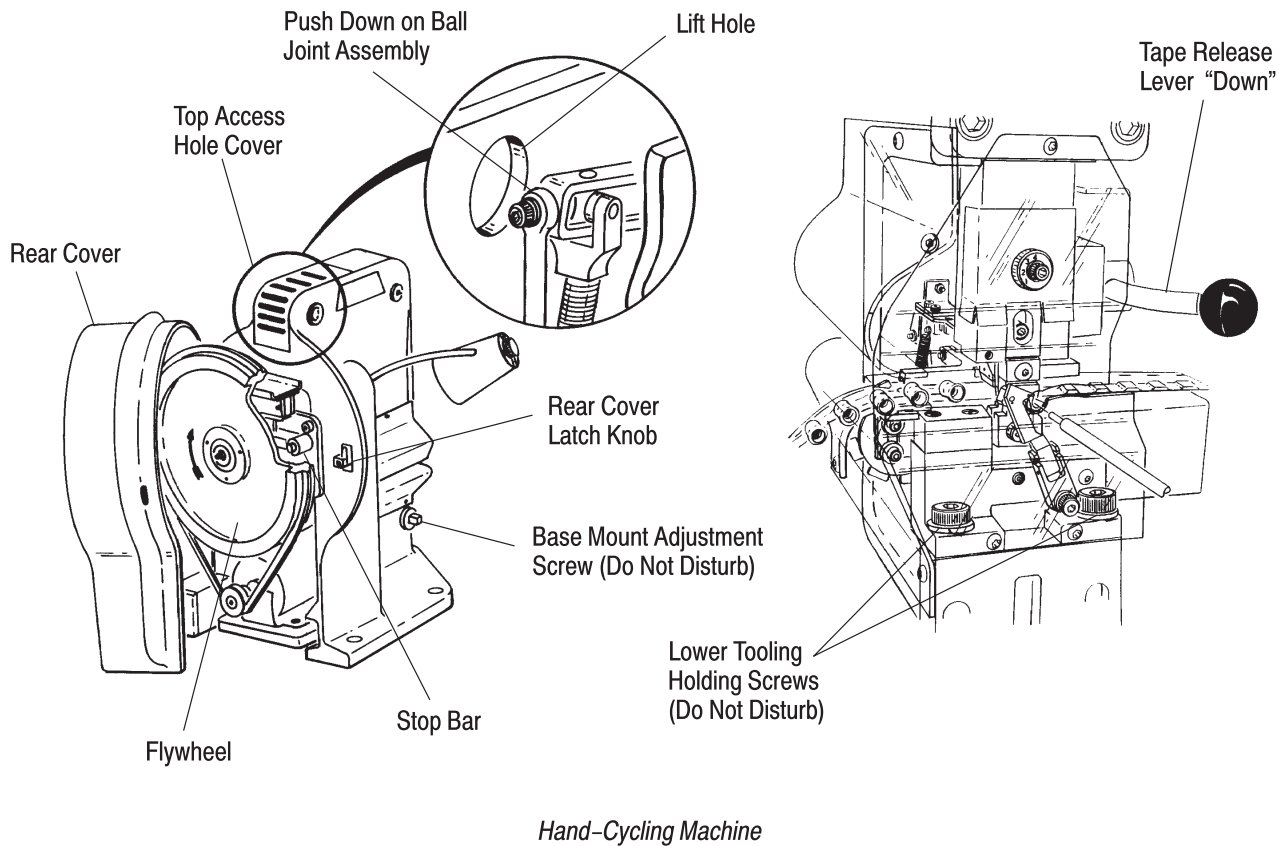

Figure 11
4. OPERATION**4.1. Hand-Cycling Machine** (Figure 11)
2. Make sure the tape release lever is in the "down" position. See Figure 11.